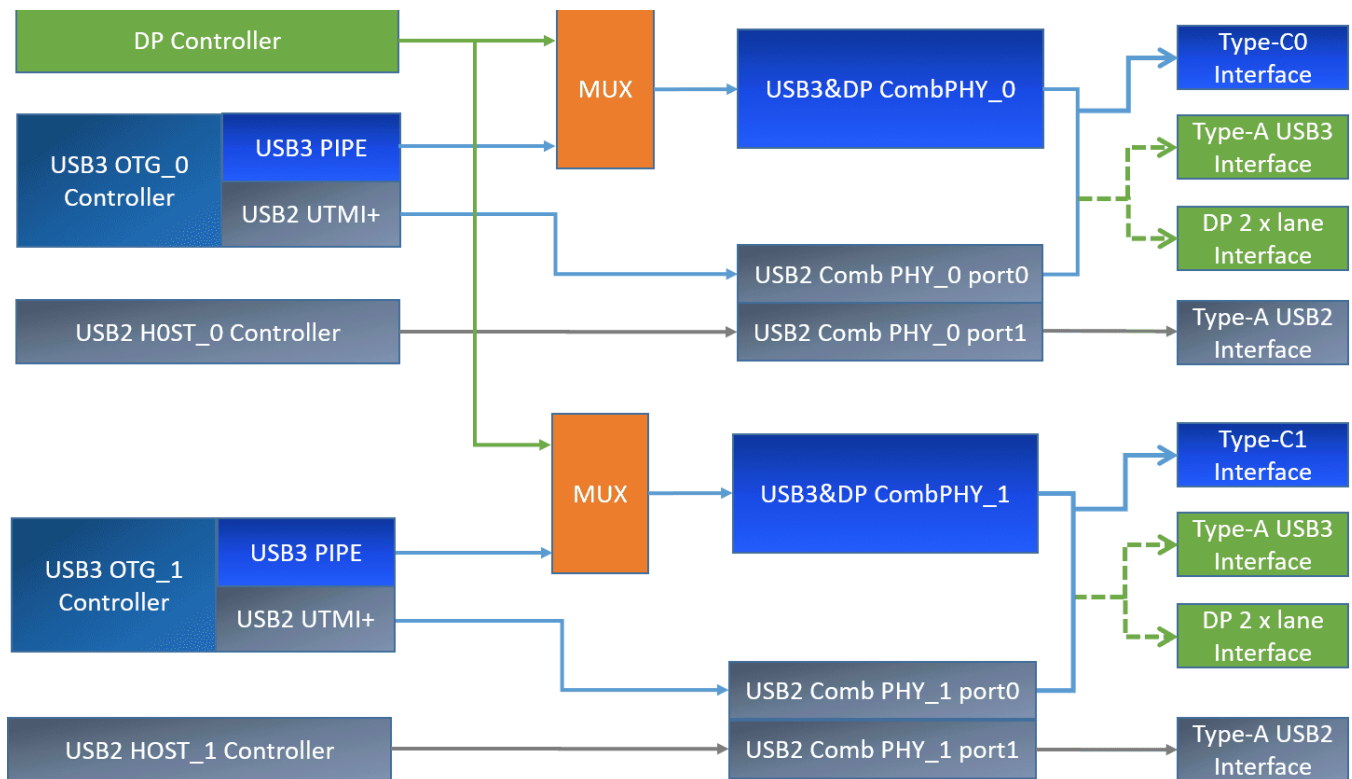

Figure 1-1 Schematic diagram of RK3399 USB controller and PHY connections
The internal connection relationship of RK3399 USB controllers and PHYs (excluding HSIC), as well as the corresponding common USB physical interfaces, are shown in Figure 1-1 below.
5. It should be noted that the types of interfaces supported by RK3399 USB are not limited to the Type-C/A USB interface types described in Figure 1-1, but can support all common USB interfaces, including Type-C USB 2.0/3.1, Type-A USB 2.0/3.1, Micro USB 2.0/3.1, etc. For specific information, please refer to RK3399 USB Supported Interface Types. To adapt to different USB circuit designs and interface types, the Linux kernel USB driver has been software compatible, and developers only need to configure the Linux USB DTS correctly according to the product's USB hardware circuit to enable the corresponding USB interface functions. For detailed USB DTS configuration methods, please refer to RK3399 USB DTS Configuration.